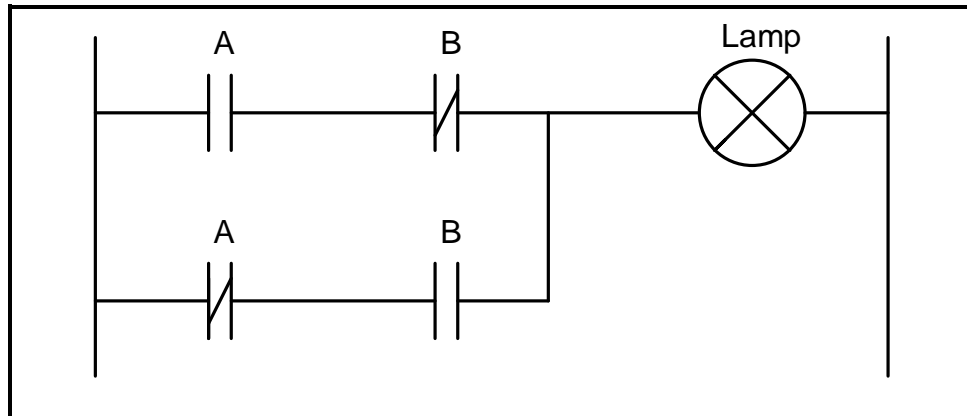

FIGURE 6.7.1: LADDER LOGIC DIAGRAM
6.7 Refer to FIGURE 6.7.1 below and answer the questions that follow.